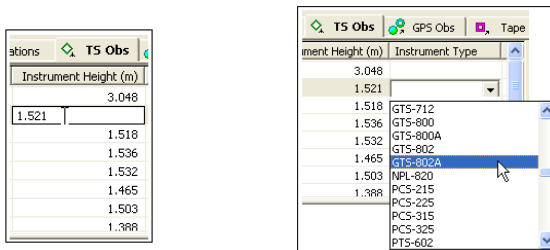

Figure 5-72. Editable Instrument Cells in Tabular View
2. Click a highlighted cell and edit the desired information (Figure 5-72).